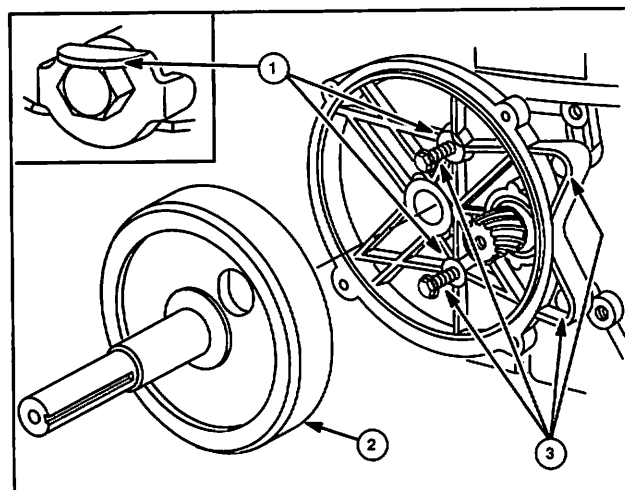
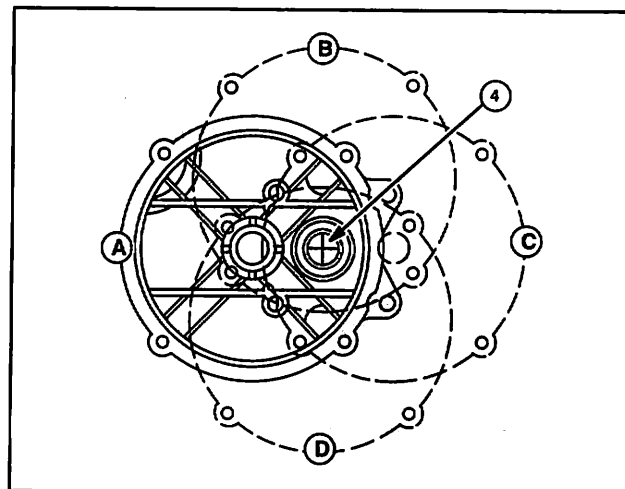

Fig. 34 – Removing Gear Case
Fig. 36
1. Note position of gear case assembly, Fig. 36.
2. Remove drive shaft assembly (2) from gear case.
3. Bend down two screw locks (1, if equipped). Remove four cap screws (3).
4. Slide gear case off engine, Fig. 34.
NOTE: Standard bearing housing position is 9 O'Clock (A), in relation to the engine crankshaft (4). Optional positions are 12 O'Clock (B), 3 O'Clock (C) and 6 O'Clock (D), Fig. 36.
Note position of gear reduction case on engine, Fig. 36.